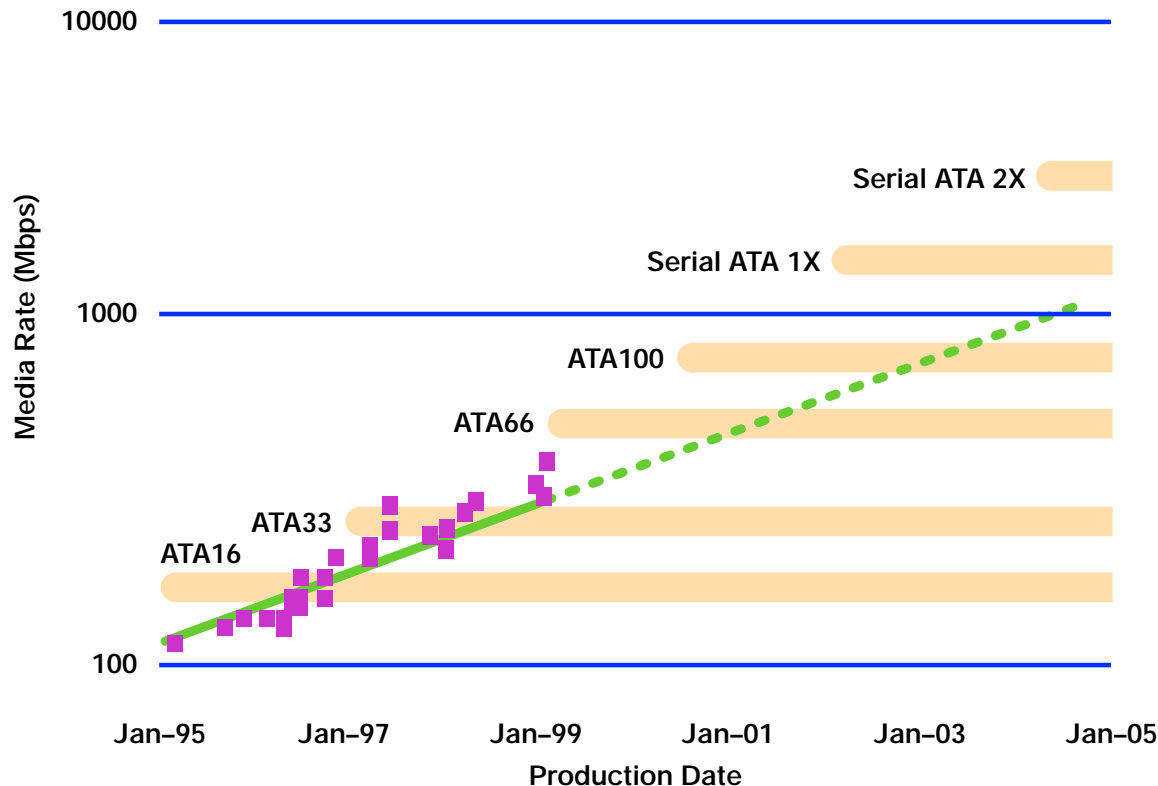

Figure 2
- *Strong roadmap.* As Figure 2 illustrates, the Serial ATA roadmap is currently projected to support scalability in successive generations of Serial ATA technology, beginning with a data rate of 150 Mbytes/second and evolving to data rates of 300 Mbytes/second and beyond.